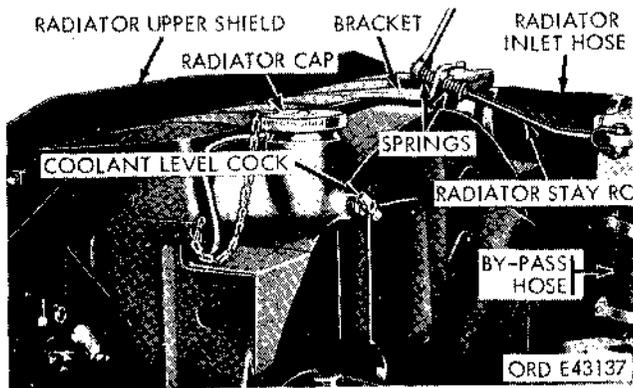
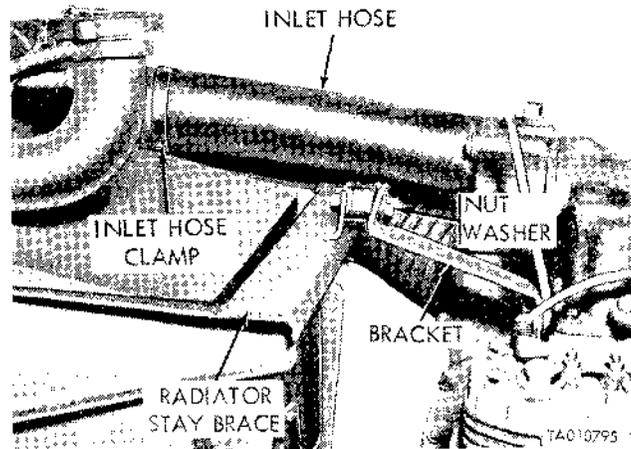

Figure 2-123. Upper section of radiator—left rear view.
Figure 2-124. Upper section of radiator—multifuel models.
- (1) Drain the cooling system. Refer to TM 9-2320-211-10.
- (2) Remove the brush guard (para 2-236).
- (3) Loosen the nut at the front end of the stay rod (fig. 2-123). Pull the stay rod front end upward, and remove the rod from the bracket. On multifuel models, remove the nuts and washers at the front of the stay brace (fig. 2-124).
- (4) Loosen the front clamp on the inlet hose (fig. 2-123).
- (5) Loosen the front clamp on the outlet hose on the lower right side.
- (6) Loosen, the two nuts and bolts securing the radiator upper shield. Pull the upper shield (fig. 2-123) forward, and remove it from the brackets.
- (7) Loosen the bolt at the top left side of the frame strap from the crossmember. On multifuel models, remove the ground strap from the radiator shroud.
(1) Be sure that the two radiator support spacers are installed on the left and right mounting studs on the bottom of the radiator; then insert the radiator mounting studs in the holes in the engine front mounting support.
(2) Install the springs (rubber mounts on multifuel models), washers, and nuts on the radiator mounting studs from the underside of the engine front mounting support. Tighten the nuts evenly. Do not completely compress the springs.
(3) Slide the radiator ground strap terminal under the head of the ground strap retaining bolt and tooth type lockwasher at the top left side of the frame front crossmember, and tighten bolt. On multifuel models, connect the ground strap to the shroud.
(4) Tighten the clamp to secure the outlet hose at the lower right side.
(5) Tighten the front clamp on the inlet hose (fig. 2-123).
(6) Place the front end of the stay rod (fig. 2-123) in the bracket, and tighten the nut. On multifuel models, install the washers and nuts to secure the stay brace at the front. Do not completely compress the springs.